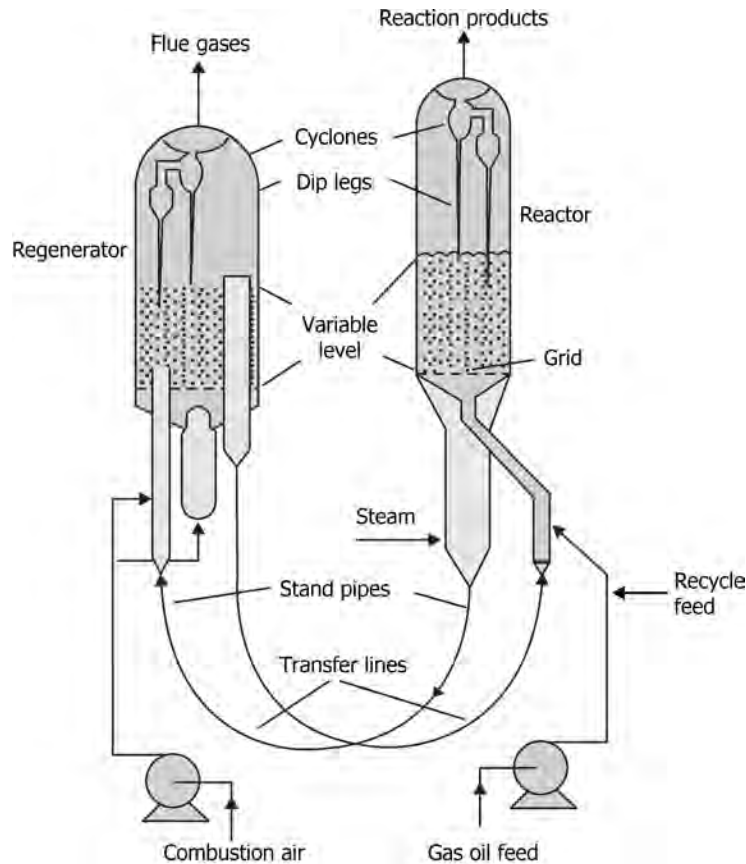

FIGURE 7.12 Typical fluid bed catalytic cracking unit.
- Figure 7.12 illustrates a typical catalytic cracking unit.